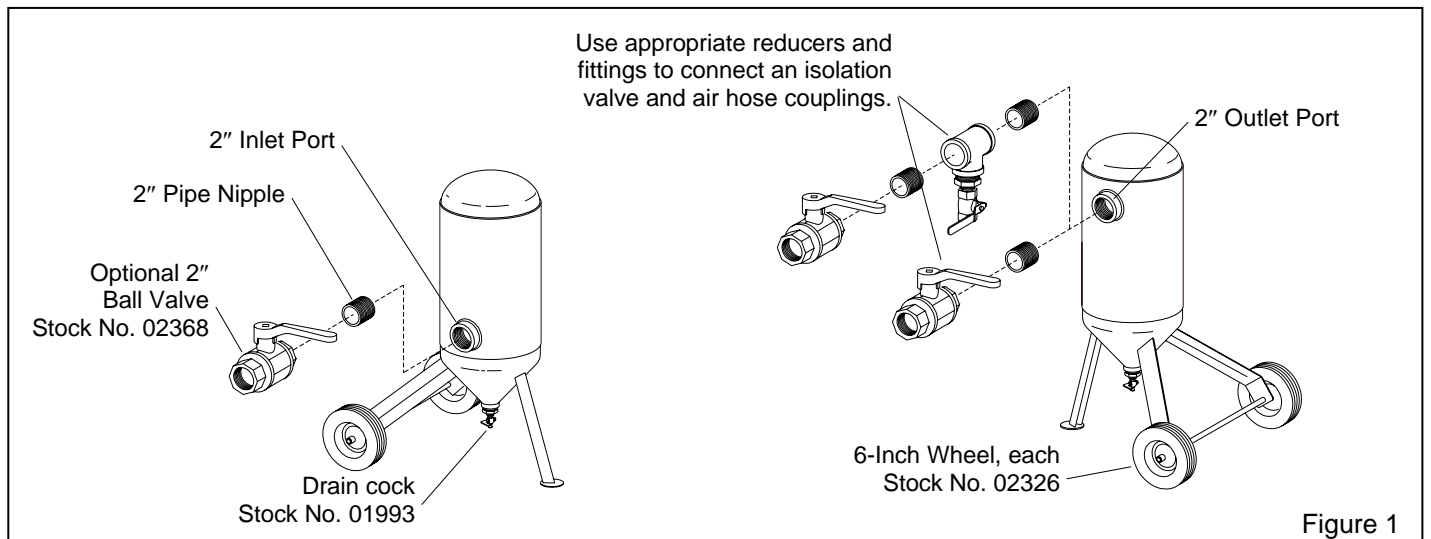

Figure 1
1.3.1 The primary components of the filter are shown in Figure 1. It includes a 2-inch inlet port, a 2-inch outlet port, and a drain petcock. The filter is designed to operate between 200 and 800 cfm (cubic feet per minute), at a maximum of 150 psi (pounds per square inch). Flow lower than 200 cfm or flow higher than 800 cfm may decrease the filter's water separating efficiency.